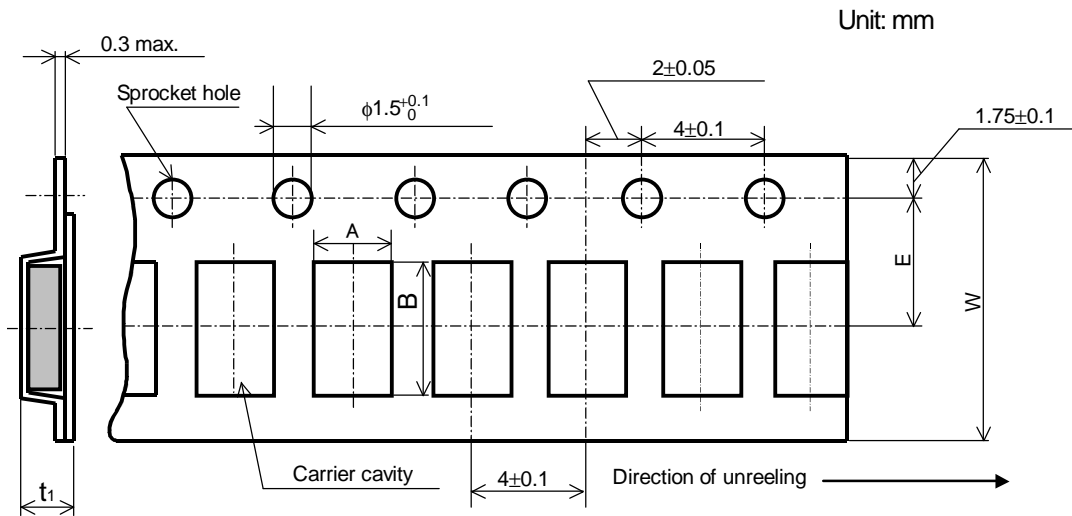

Figure-9
9.2.4 Embossed tapping dimensions shall be in accordance with Figure-9 and Table-8.